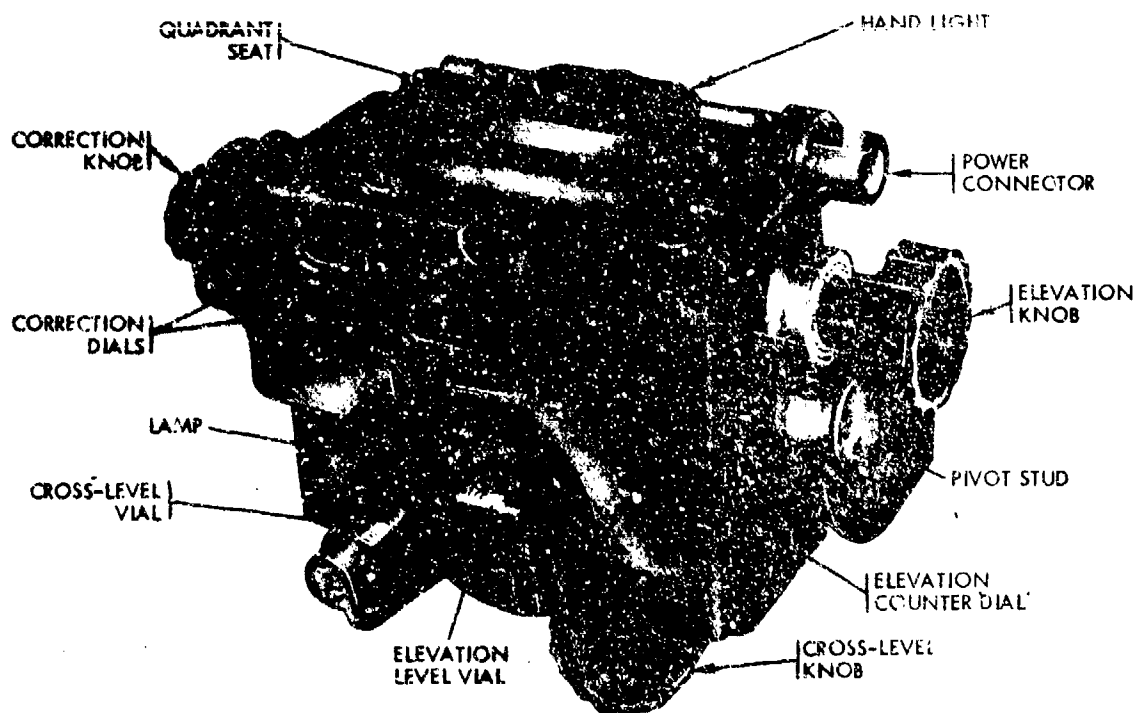

Figure 8-24. Elevation quadrant M15.
*a. Elevation quadrant M15.* Elevation quadrant M15 (fig 8-24) is mounted directly on the right-hand trunnion and is used for adjustment of the weapon in elevation when two men are orienting the weapon. Elevation quadrant M15 is equipped with a mechanical mil counter for elevation readings. Gunner's aid counters are built in to permit quick, accurate insertion of elevation correction factors peculiar to the individual cannon and cannon emplacement. A quadrant seat is also provided on the instrument to allow the use of gunner's quadrant M1/M1A1 when fine elevation settings are required. A mounting bracket for the elevation quadrant is precisely machined and alined so that, when the instrument is installed, complex adjustments are unnecessary and only an accuracy check is required. The controls on the elevation quadrant are identical to corresponding controls on panoramic telescope mount M137.
*b. Adjustment and tests for elevation quadrant M15.* The adjustment and tests described in (1) through (6) below will be made whenever the elevation quadrant M15 is replaced or whenever a